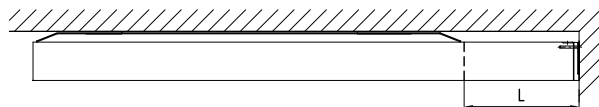

Figure 11. Extended cover with wall attachments.
1. Extended cover with wall attachments (see fig. 11).